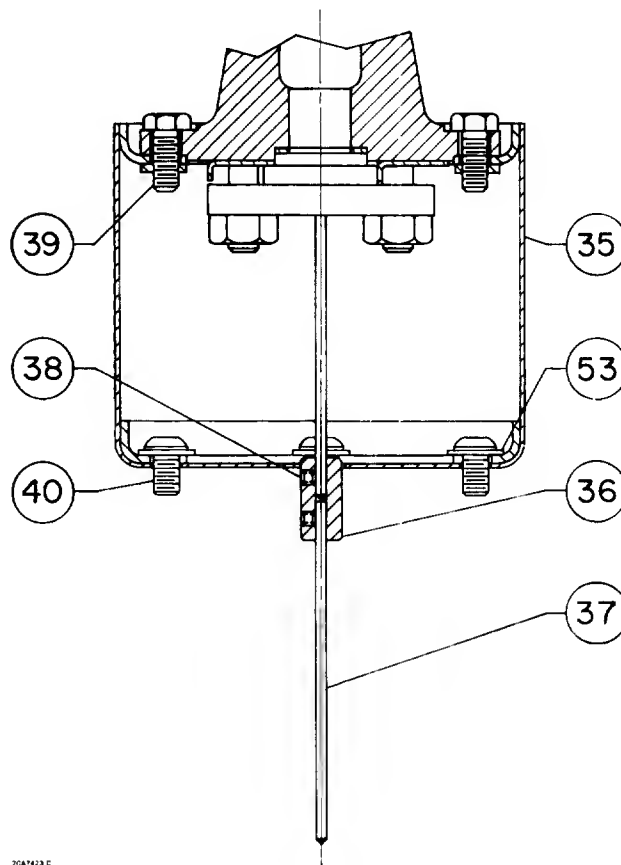

Figure 15. Heat Insulator
3. Remove any insulating tape from the joint between the controller/transmitter case and the torque tube arm. Remove the four cap screws (key 39, figure 15) that hold the controller/transmitter or heat insulator to the torque tube arm. Pull the case straight out from the torque tube arm, easing it over the shaft coupling (key 36, figure 15) if one is installed.
Perform the following step only if it is necessary to remove a heat insulator from the controller/transmitter case. Key numbers in this step are shown in figure 15.
Perform step 1 only if adding a heat insulator to a unit that does not have one. Key numbers in this step are shown in figure 15.
2. Carefully slide the controller/transmitter case straight in, easing the attached heat insulator over the shaft coupling (key 36, figure 15) if necessary. Secure the case or insulator to the torque arm with the four cap screws (key 29, figure 15).
**PARTS LIST****Heat Insulator (figure 15)**